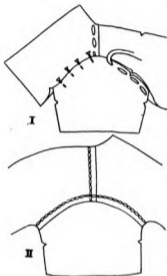

FIGURE 152
*Shirt Sleeve* (Figure 152). — The simplest style and the one that gives the least trouble is the shirt sleeve. This sleeve is sewed to the waist before the underarm seam is sewed up and